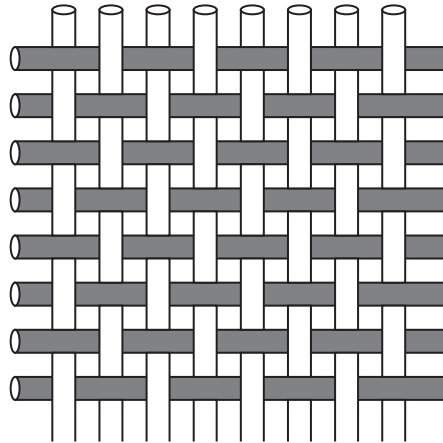

Fig. 4
- (c) Fig. 4 shows the structure of the fabric used to make the bag. Identify the method of fabric construction shown below.
- (d) Name **one** fabric produced by the construction method shown in Fig. 4.